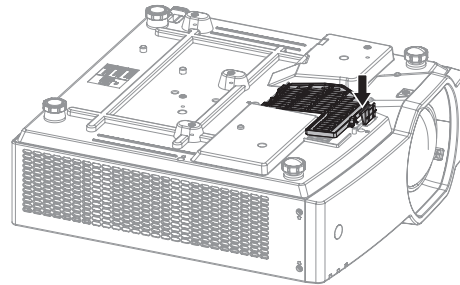

Fig. 2
- Press the air intake screen as shown in Fig. 2 so that it will click into position.